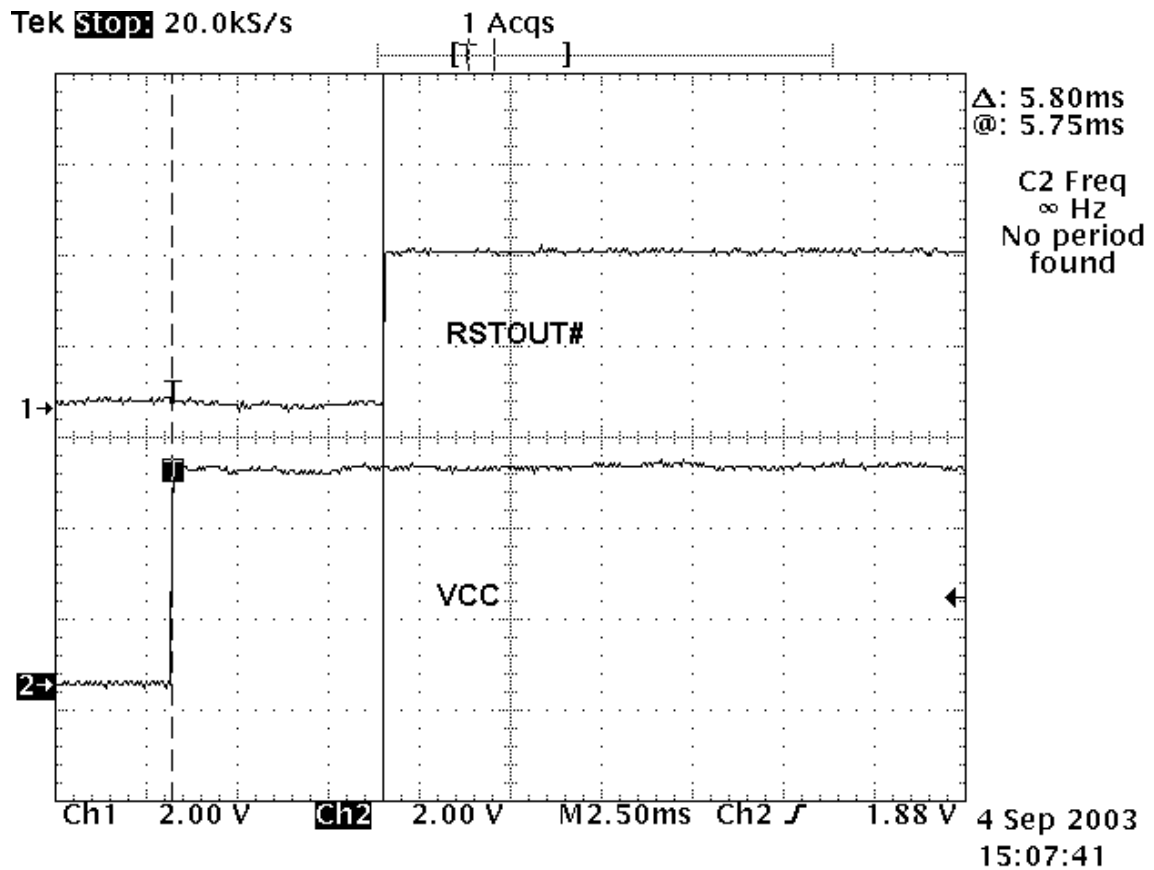

Figure 2. - RSTOUT# will go high 5.6 milliseconds after Vcc is applied.
1. **Pin 4, RESET# being held low or floating.** While RESET# is held low, the RSTOUT# signal will drive low to prevent the 1.5K ohm pull up resistor on USBDP from going high. This 1.5 K ohm pull up resistor on USBDP to the 3.3 Volts on RSTOUT# is used by the system to detect that a device is present. The system can detect that a high speed device has been connected by looking for USBDP being pulled high (USBDP is pulled high for a low speed device). If RESET# is tied to VCC then RSTOUT# will go high when the oscillator has become stable. You can tell when the chip has come out of reset as RTSOUT# will go high (3.0 - 3.6V). The chip will continue to stay in reset for 5.6 milliseconds after RSTOUT# goes high. This is shown in Figure 2.